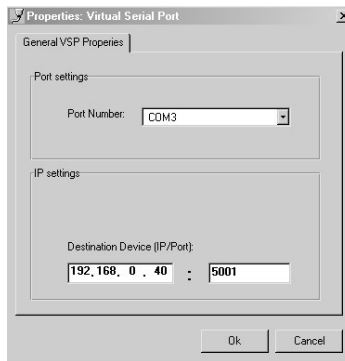

Figure 9: The Virtual Serial Port Properties Window
2. Press the **Add VSP** button to add a serial port and type the IP settings according to the IP address and local port of your **VS-41HDMI** (see Figure 9).